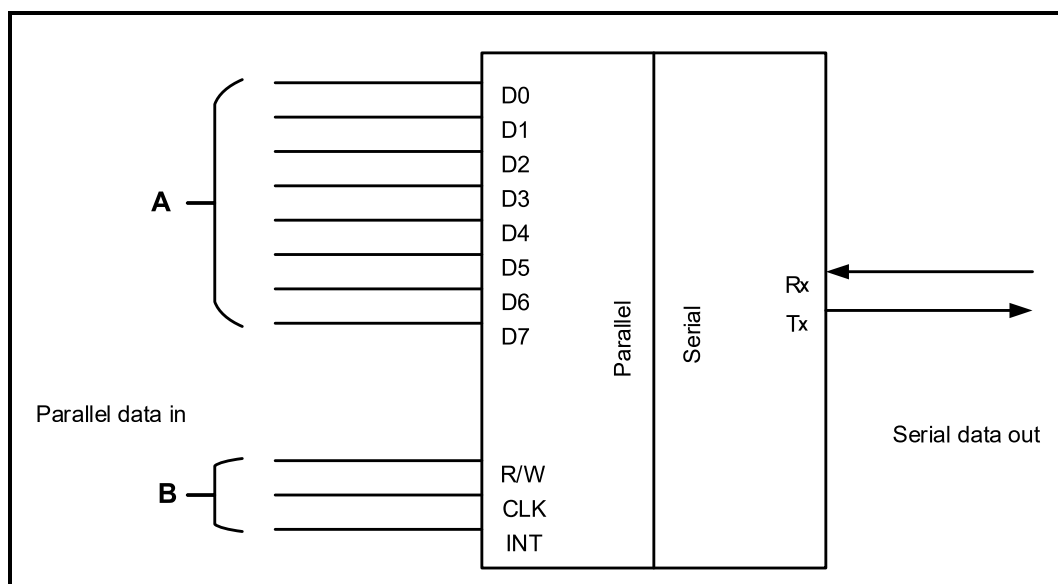

FIGURE 6.6
6.6 Refer to FIGURE 6.6 below of an UART and answer the questions that follow.